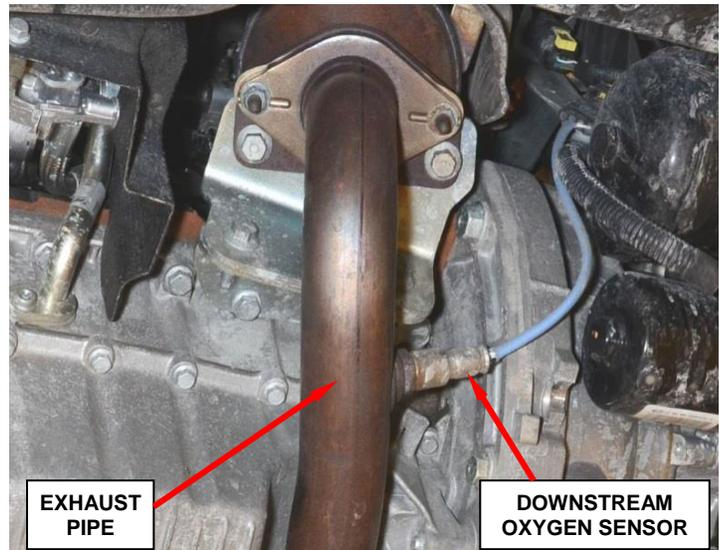

Figure 13 – Downstream Oxygen Sensor
30. Connect the downstream oxygen sensor electrical connector (Figure 13).